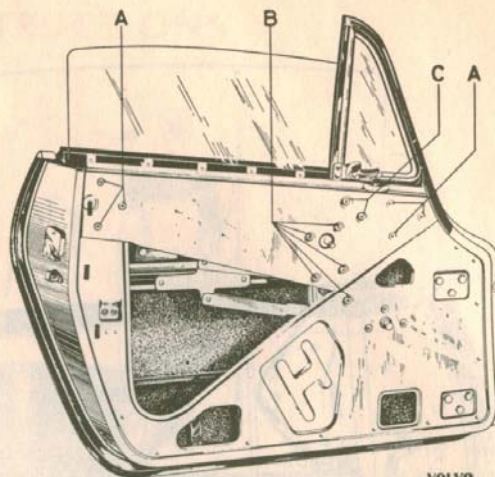

Fig. 11-6. Door with removable door plate
The ventilation window is attached by means of two screws to the upper door plate and with a loose plate on the front edge of the door. When removing, take off the window handle, upper door panel and plate on the front edge of the door and then unscrew the two screws on the upper inner door plate, Fig. 11-6, after which the ventilation window can be lifted up. The back edge of the ventilation window forms a guide for the main window. The end of the guide rests against a fixing catch attached to the door. When fitting, ensure that this catch locates in the guide. The catch is adjustable. The stiffness of the ventilation window in the open position can be adjusted by tightening the two screws (1) in Fig. 11-7.
When removing, detach the upper removable plate where it is fitted to the door and to the window, see Fig. 11-6, together with the ventilation window. Then unscrew the screw in the fixed lower inner plate on